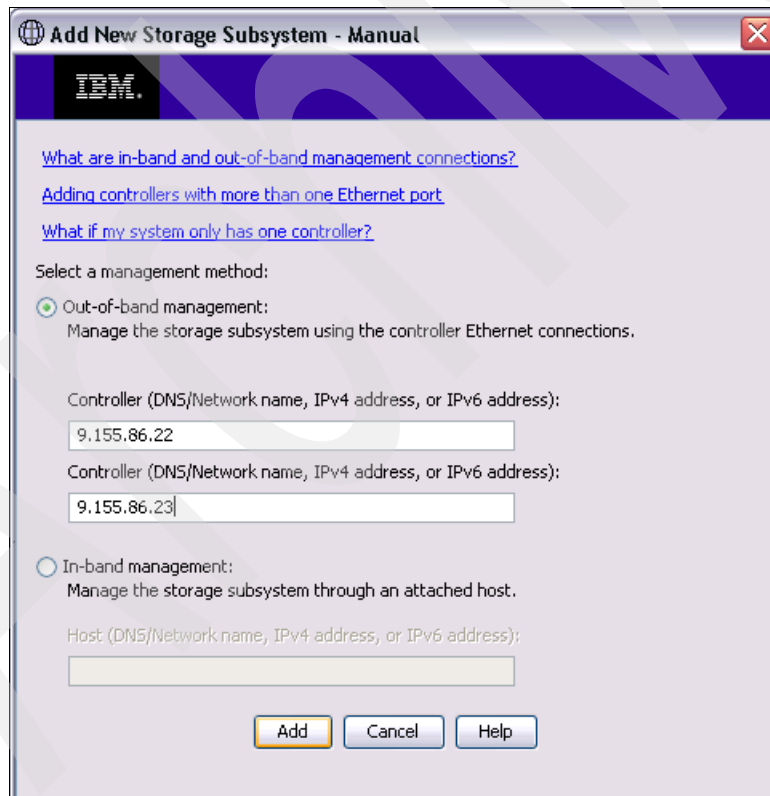

Figure 7-12 DS Storage Manager Add New Storage Subsystem dialog
14. In the Add New Storage Subsystem dialog we select **Out-of-band management**, enter the IP addresses of our DS4800 storage subsystem controllers A and B, and click **Add**, as shown in Figure 7-12.